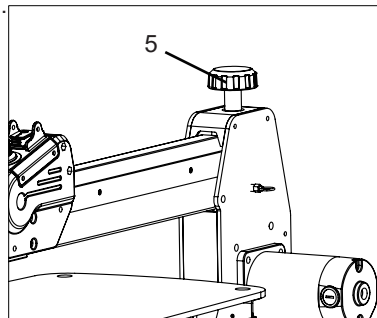

FIGURE 10
5. Tighten the bottom blade locking knob (4). This locks the blade in place.
6. Insert the top of the blade into the top clamp. Tighten the top blade locking knob (3).
7. Pull down the Blade tension handle (2) toward down to Lock up.
8. Fine-tune the Blade tension knob (Fig. 10, 5).